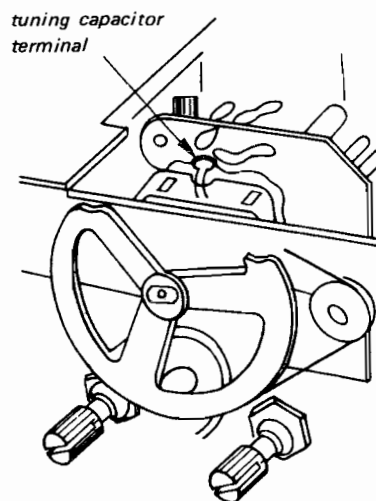

Fig. 2-5
3. Unsolder the tuning capacitor terminal shown in Fig. 2-5.